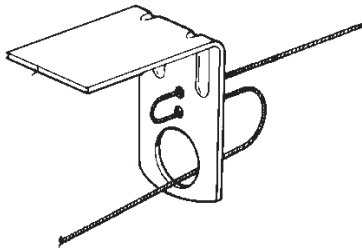
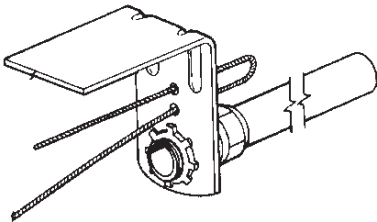
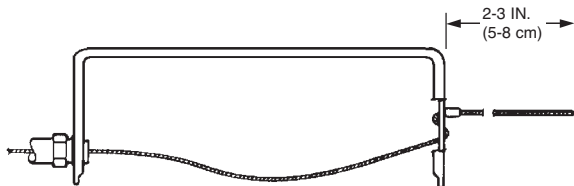

FIGURE 35
FIGURE 36
FIGURE 37
- Feed the wire rope through the terminal detector bracket as shown in Figure 35 or as shown in Figure 36 if the terminal detector is mounted within a duct or header opening, and install the stop sleeve approximately 2 to 3 in. (5 to 8 cm) from the end of the wire rope. See Figure 37. Use the National Telephone Supply Company Nicopress Sleeve Tool (Stock No. 51-C-887) or equal to properly crimp the stop sleeve.